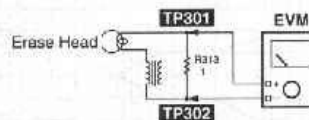

Fig. 7
3. Check if the output at this time between the erase current confirmation point TP301 and TP302 (the output on both edges of R313) is within the standard value. (Refer to Fig. 7.)